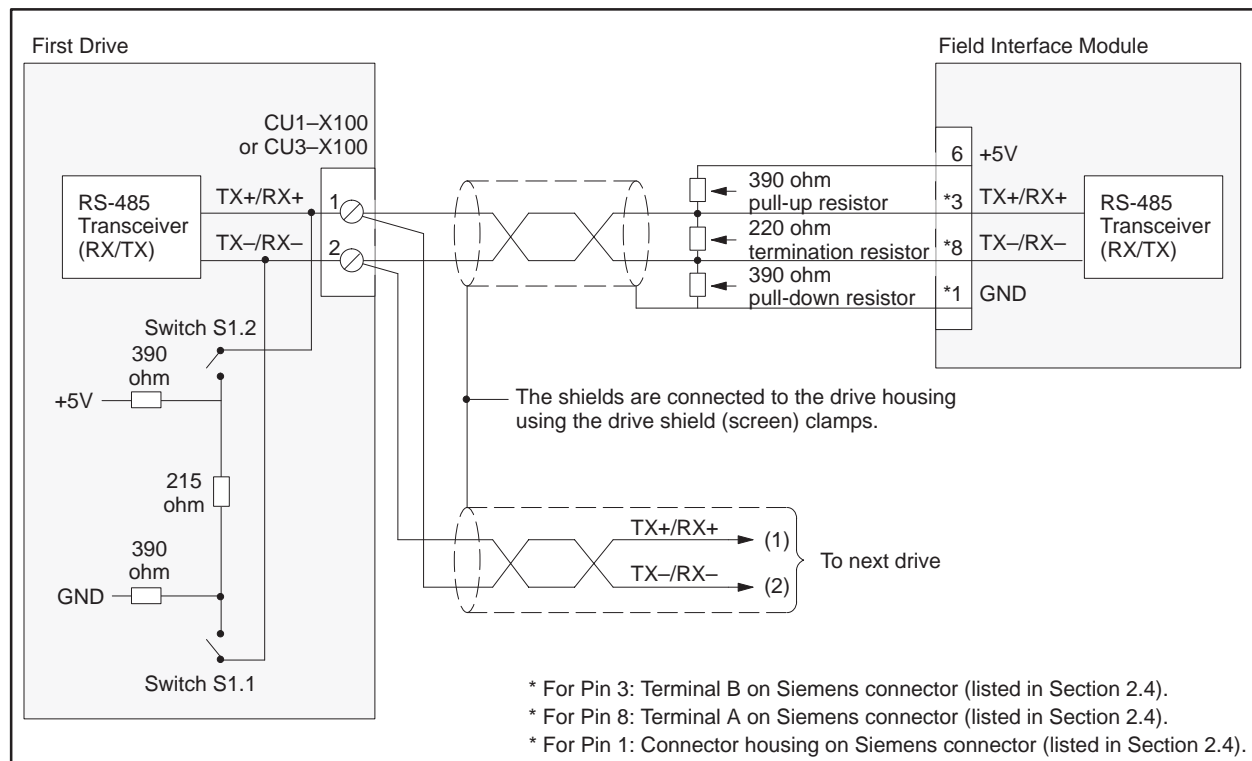
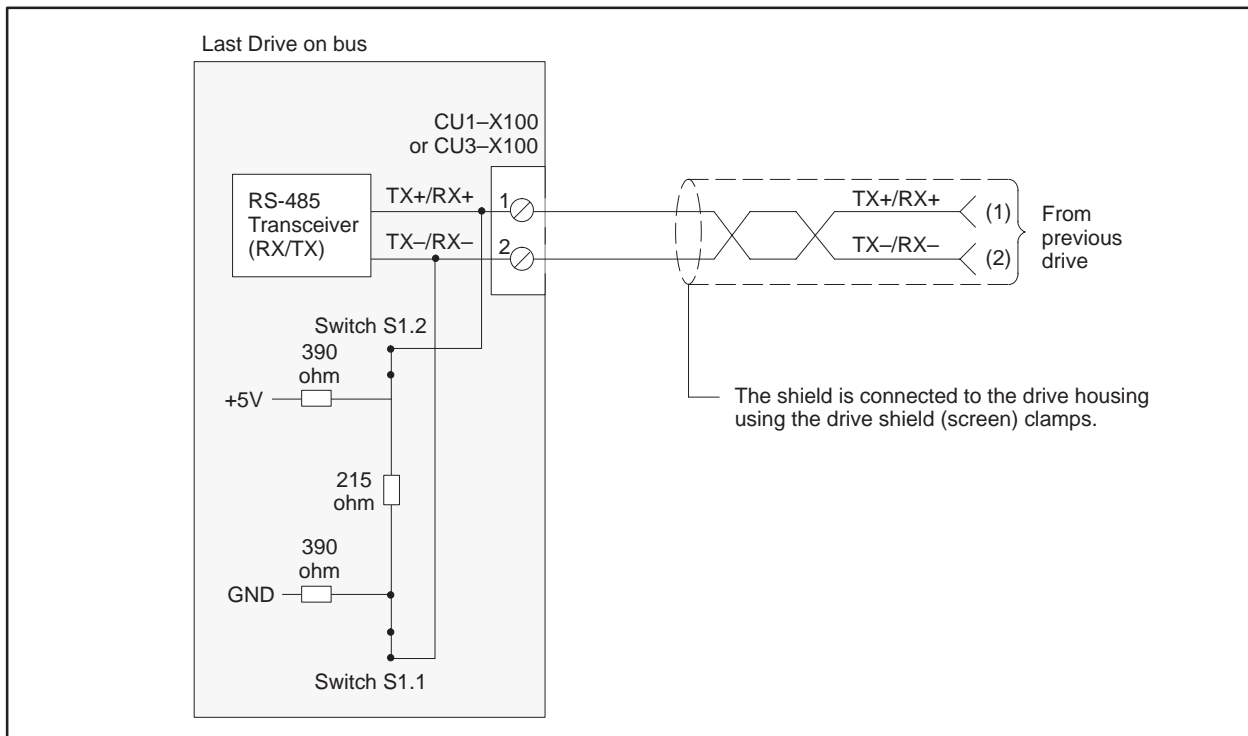

Figure 3-46 Master Drive Models FC and SC Wiring: All Drives Except End of Bus
Figure 3-47 Master Drive Models FC and SC Wiring: Drive at End of Bus
- S1.1 Figure 3-46 and Figure 3-47 show the correct positions of this hook switch.
- S1.2 Figure 3-46 and Figure 3-47 show the correct positions of this hook switch.
Figure 3-46 shows the wiring for all drives except the end of the bus for the 6SE70 Master Drive Models FC and SC.
Figure 3-47 shows the wiring for the drive at the end of the bus for the Master Drive Models FC and SC.